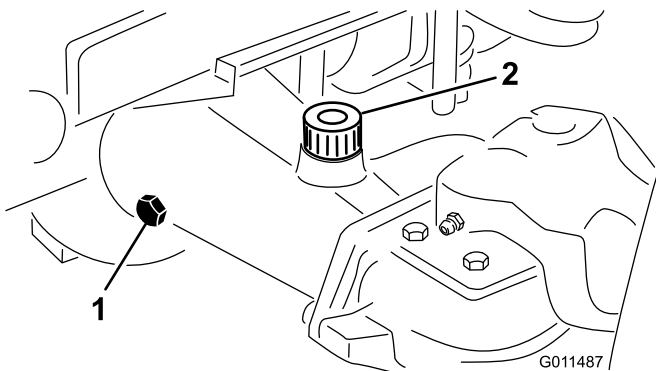

Figure 63
- Remove a check plug from one end of the axle and ensure that the lubricant is up to the bottom of the hole (Figure 63).